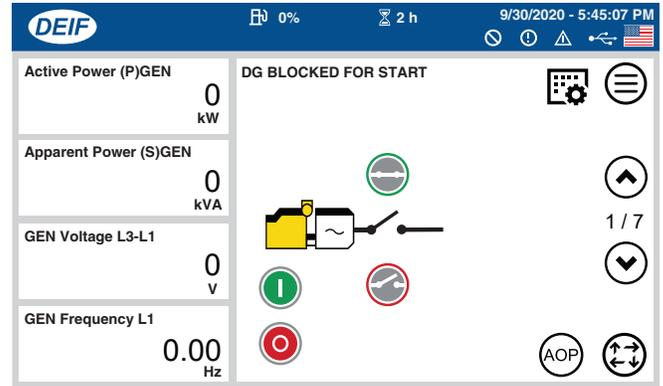

Figure 160. Home Screen (1 of 7)
8. Verify that the **Home** screen (1 of 7) is displayed. See Figure 160.